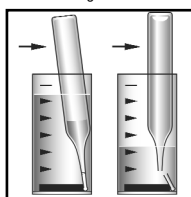

Figure 3
5. Immediately place the Vacu-vial ampoule, tip first, into the sample cup. Snap the tip. The ampoule will fill, leaving a bubble for mixing (fig 3).